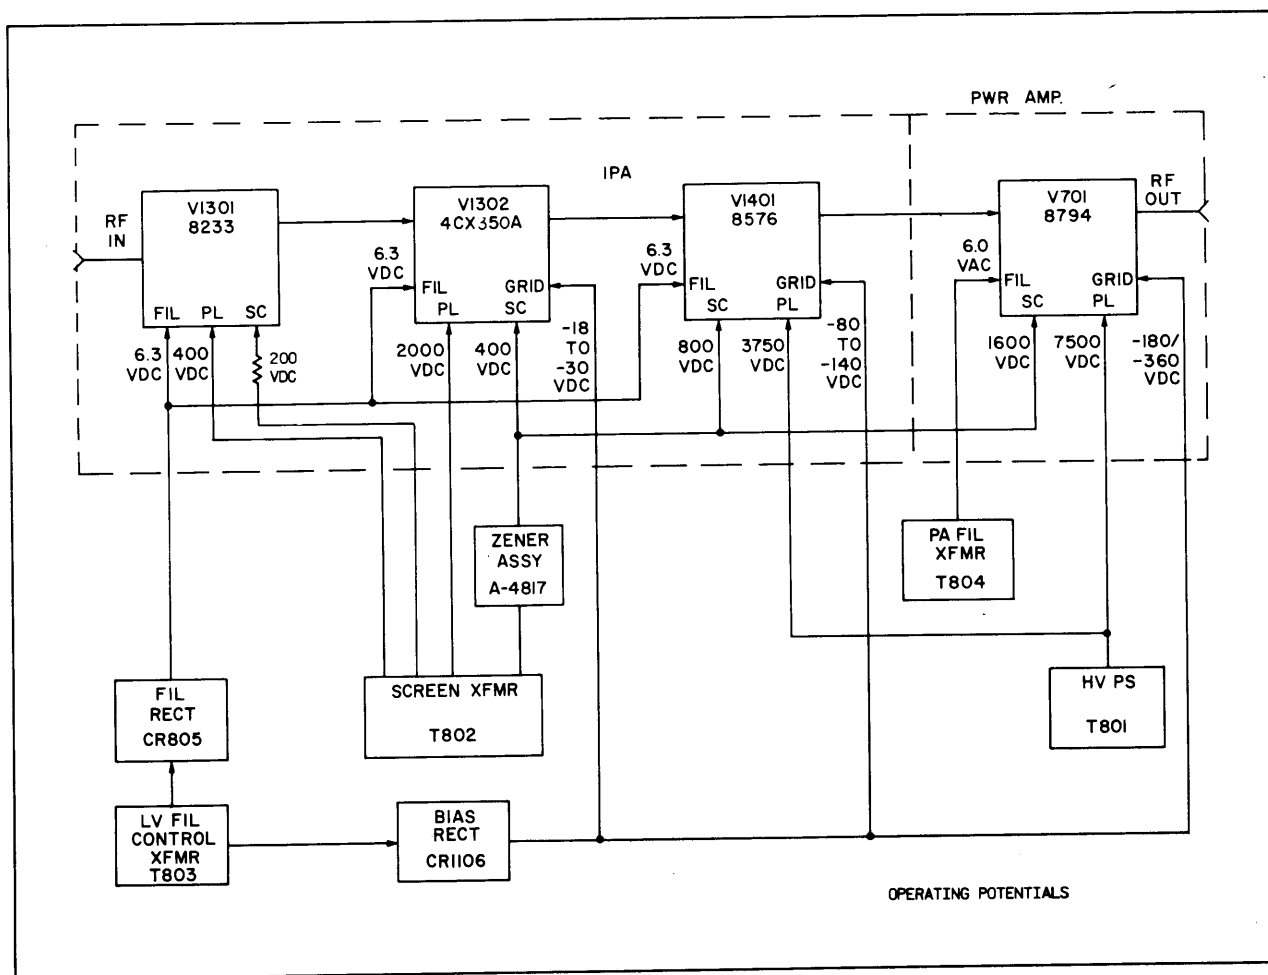

Figure 4-3. HFLM-10K Operating Potentials
b. DC Power Distribution. (Refer to Figure 7-1, sheet 5 and Figure 4-3)
(1) Plate Voltage - Application of 3 phase power input to the high voltage transformer, T801 provides plate voltage for the IPA and PA tubes. The PA plate voltage of 7500 vdc is derived from a full wave bridge rectifier circuit, CR802A thru CR802F, then filtered by C801 and L801 before application to the PA plate. Resistors R803 thru R807 are bleeders for the supply. One half of the value of the PA plate voltage (3750 vdc) is available at the neutral tap of T801 secondary. This 3750 vdc is the plate voltage for the IPA tube and is filtered by L802 and C802 before application to the IPA plate.